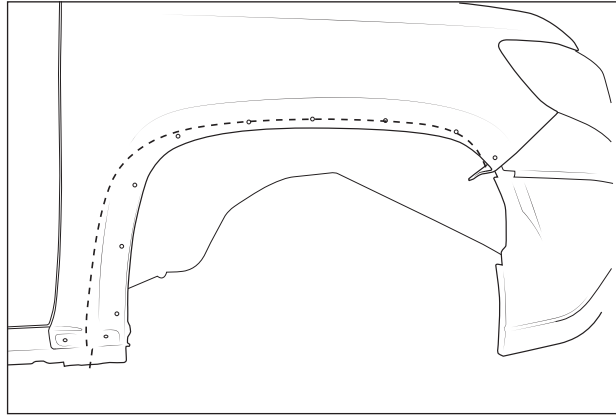

Figure 3
4. While the template is aligned with the fender, mark sheet metal along solid line as directed on template. Then remove the template and begin cutting (fig. 3).